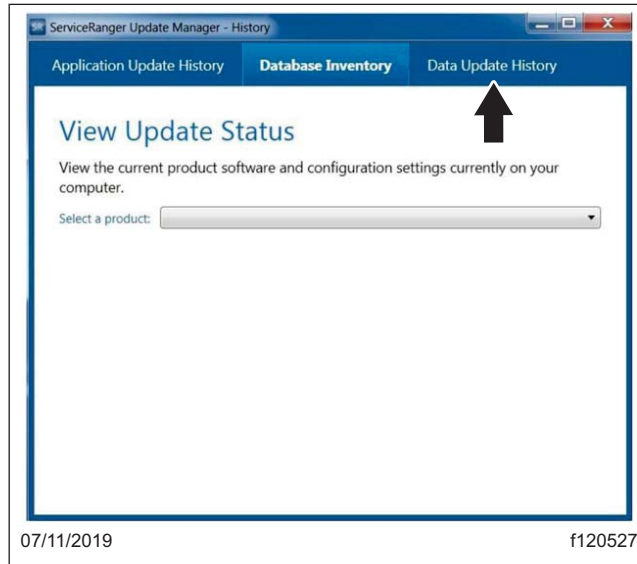

Fig. 3, Data Update History Tab
2.3 Select "Data Update History" tab. See Fig. 3.